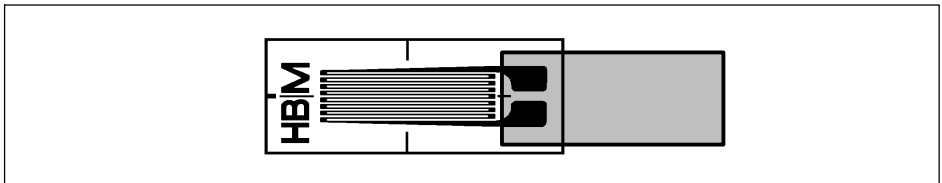

Fig. 5.3 Hinge-like connection for SG without lead
- In SG without leads, create a hinge-like connection as shown in Fig. 5.3 (without additional solder terminals).